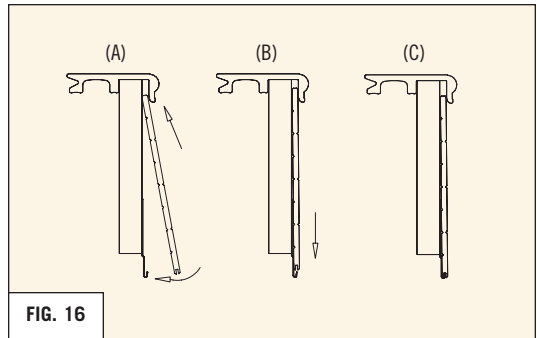

FIG. 16
- Insert the square edge of the fascia cladding into the space between the bullnose and the rim joist. Swing the lower edge of the fascia cladding towards the rim joist and drop the cladding onto the hanger so that the hook of the hanger fits into the groove on the cladding. (REFER TO FIG 16)